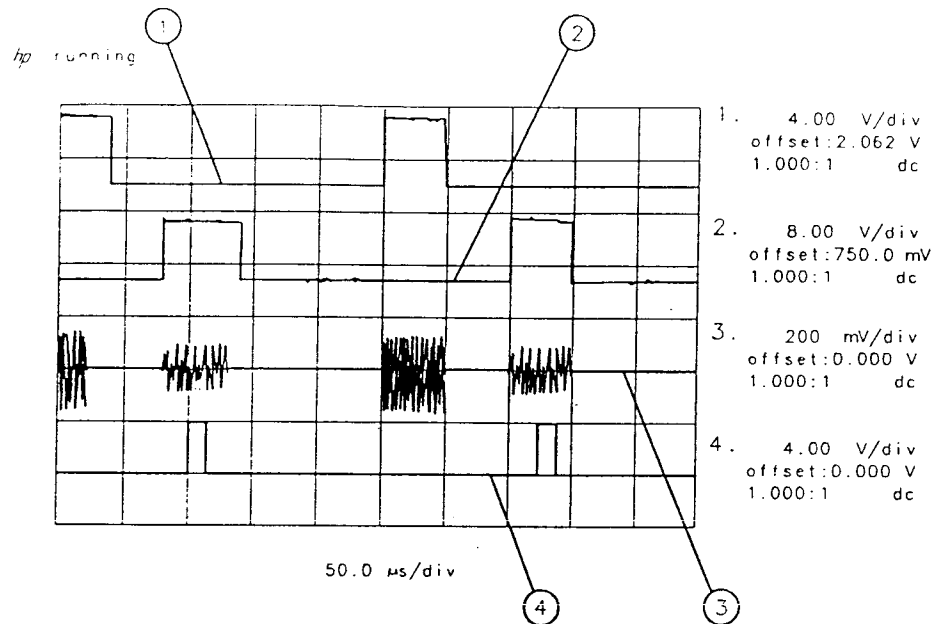

Figure 2-61. Placing the Gate Output During the Second Signal
9. To view the second signal, change the gate delay so that the gate output is under the second signal. Since the second signal had a signal delay of approximately  $85 \mu\text{s}$ , we set the gate delay to  $85 \mu\text{s}$  plus the pulse width/2, or  $110 \mu\text{s}$ . Press **[SWEEP]**, **GATE MENU**,  $110 \mu\text{s}$  to set the gate delay to  $110 \mu\text{s}$ . Using an oscilloscope can be helpful in placing the gate output during the pulsed signal. See Figure 2-61.